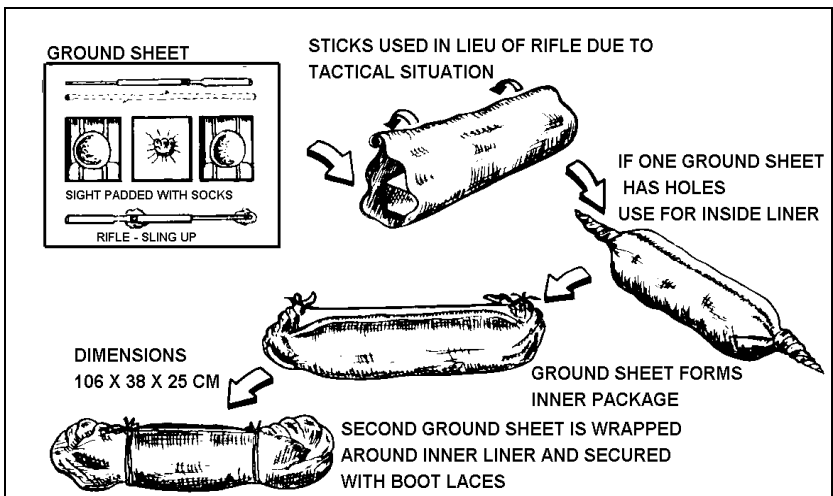

Fig 14-5-3 Ground Sheet or Poncho Raft
5. **Ground Sheet (or Poncho) Raft.** The ground sheet (or poncho) raft can be constructed very easily from the personal equipment of two soldiers and is capable of supporting 36 kg (Fig 14-5-3). The ground sheet (or poncho) is laid out on the ground and the weapons (or sticks if the